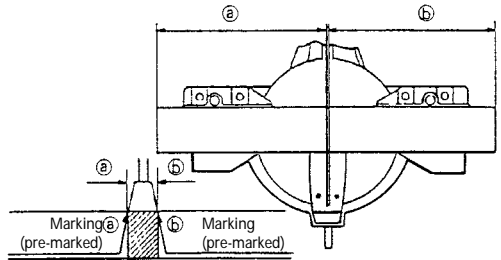

Fig. 15
- (1) As shown in Fig. 15 the width of the saw blade is the width of the cut. Therefore, slide the workpiece to the right (viewed from the operator's position) when length (b) is desired, or to the left when length (a) is desired.